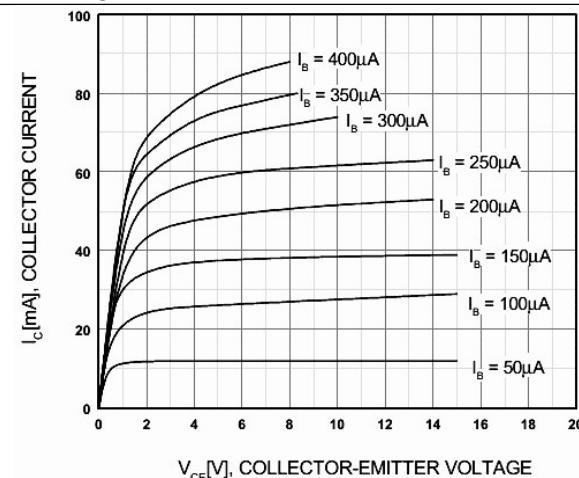

Figure 4.6. Common Emitter Output Characteristics
- b) **Figure 4.6** shows the output characteristics of transistor BC-547 in **CE** mode. Corresponding to different values of $RB2$ provided in the **Table 4.1**, mark the points for I_C and I_B achieved experimentally. Using the **Figure 4.6**, and experimentally obtained values of I_C and I_B , justify if the transistor is in Cut-Off (**OFF**) or saturation (**ON**).